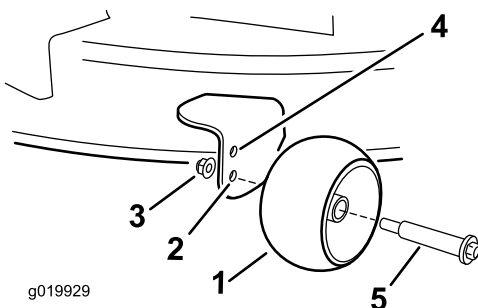

Figure 21
- Upper hole—use this position with the mower deck in the 63mm (2-1/2 inch) and below height-of-cut positions (Figure 21).
- Lower hole—use this position with the mower deck in the 76mm (3 inch) and above height-of-cut positions (Figure 21).